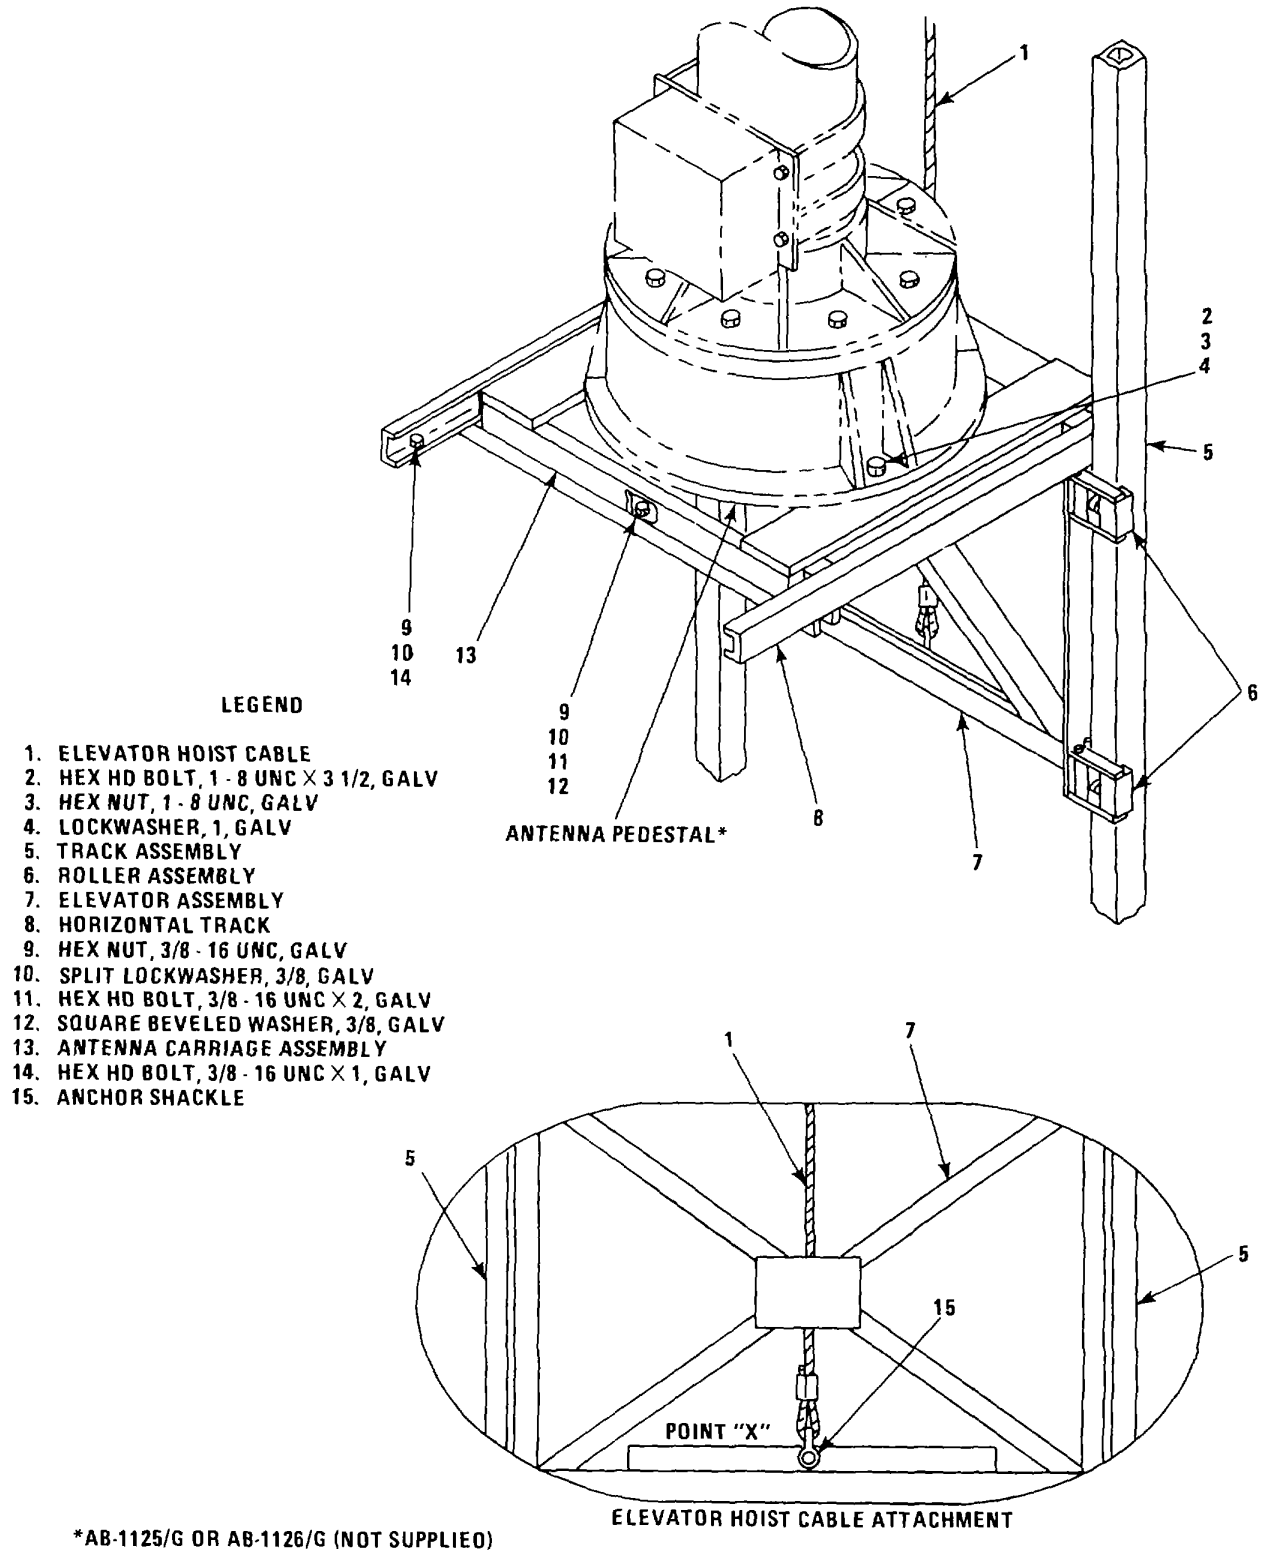

Figure 2-18. Installation of Elevator Assembly and Antenna Carriage Assembly
(3) Refer to figure 2-18. Connect elevator hoist cable (1) to elevator assembly (7) by means of anchor shackle (15).
(6) Refer to figure 2-18. Remove two stop bolts (14), nuts (9), and lockwashers (10) from horizontal track (8) elevator assembly.
(7) Refer to figure 2-18. Have two persons lift antenna carriage (13) and engage its rollers with horizontal tracks (8) of elevator assembly. It does not matter which end of antenna carriage is inserted into elevator assembly.
(8) Refer to figure 2-18. Secure antenna carriage (13) to elevator assembly (7) by means of six bolts (11), nuts (9), lockwashers (10), and square beveled washers (12). Insert two stop bolts (14), nuts (9), and lockwashers (10).
(9) Visually check to see if vertical elevator tracks are aligned. If not, align them.
(10) Perform elevator tests (paragraph 2-17b) before attaching antenna.
(4) Install antenna installation platform (paragraph 2-17c) to reduce hazards and other problems in unbolting antenna carriage.
(5) Refer to figure 2-18. Remove six bolts (11), nuts (9), lockwashers (10), and square beveled washers (12) that secure antenna carriage assembly (13) to elevator assembly (7).
(7) Roll antenna carriage back onto elevator assembly. Secure with six bolts (11, figure 2-18), nuts (9, figure 2-18), lockwashers (10, figure 2-18), and square beveled washers (12, figure 2-18).
(1) The antenna to be mounted is of the AN/GSA131(V) series. Refer to TM 32-5985-201-15 for the assembly of this antenna and of the mast. As TM 32-5985-201-15 states, before it can be installed, the antenna must be built with elements protruding from three sides. The side that does not have protruding elements must be the side that faces the tower when the antenna is mounted onto the elevator.
(2) Perform the elevator and carriage tests described in paragraph b, above. Check orientation of winch.
(3) Attach antenna positioner to antenna carriage as shown in figure 2-18. Secure with three bolts (2), nuts (3), and lockwashers (4).
(4) Raise antenna into position for mounting by the procedure given in TM 32-5985-201-15.
(5) Before setting antenna down, be sure that the three holes in platform of antenna carriage properly align with holes in positioner flange. If not, correct alignment.
c. Allow track assembly (15) on tower section No. 1 and on left-hand side (when facing tower) to freely pivot as follows:
(1) Detach splice plate (29) by removing bolt (26), nut (27), and lockwasher (28).
(2) Disconnect bottom left-hand track assembly (15) from track supports Nos. 1 (14) and 2 (13) by removing four bolts (7), nuts (8), and lockwashers (9). Remove one bolt (7), nut (8), and lockwasher (9) that connect track assembly to track support No. 3 (12).
d. Lower elevator assembly to tower section No. 1. While pivoting left-hand track, disengage it from roller assembly (6, figure 2-18) of the elevator assembly. Pivot left-hand track away from right-hand track. Disengage elevator roller assembly from right-hand track.